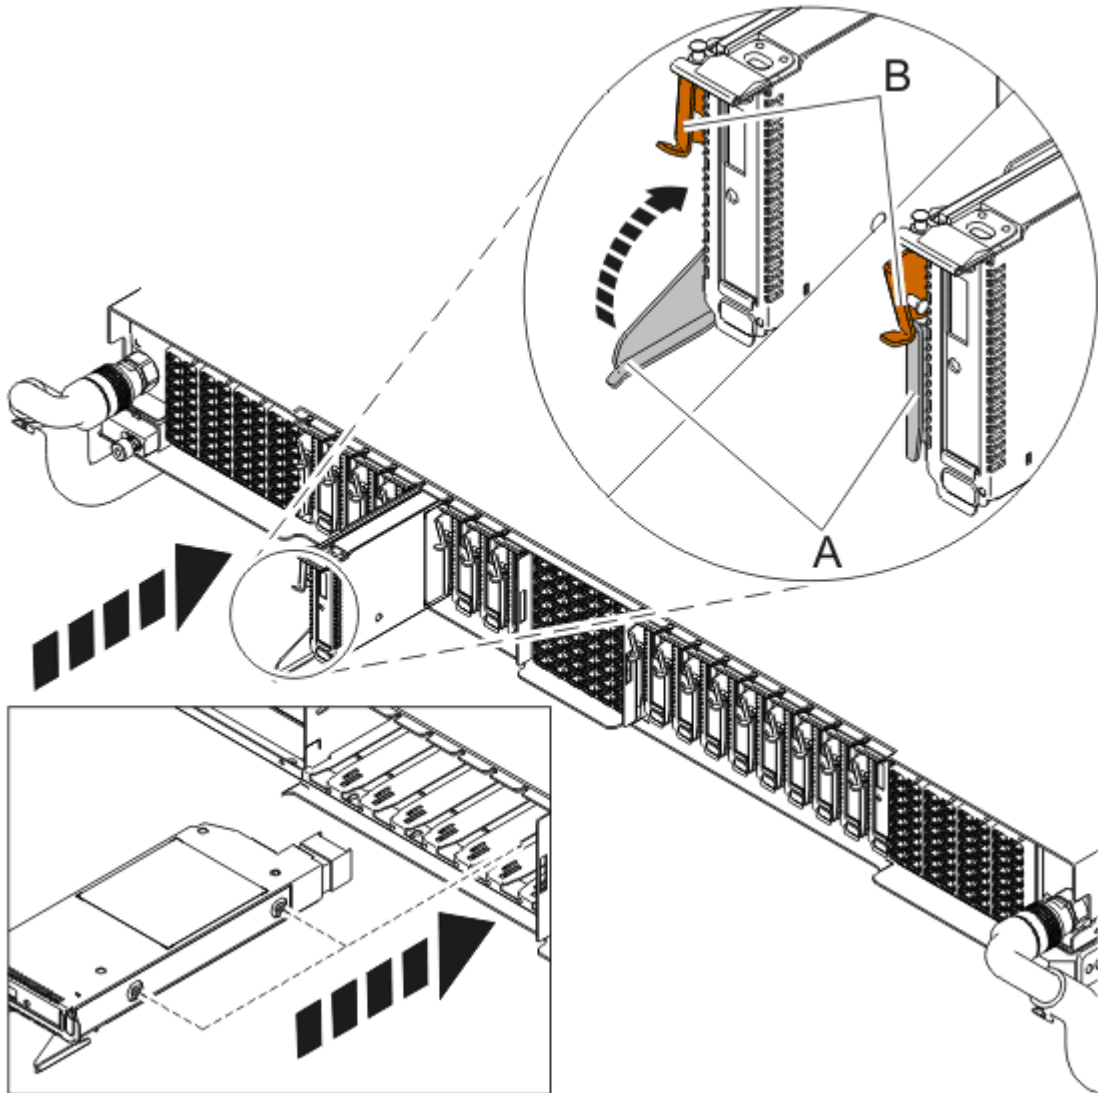

Figure 16 Install Utility Non-Volatile Storage Assembly
STEP 32 Install the replacement Utility Non-Volatile Storage Assembly and SAS Jumper Cable. See Figure 16 for UNVSA installation.
- a. Align the guide pins on bottom of UNVSA with the PCIe slot as shown in the lower left inset of Figure 16. Bottom of UNVSA shown for reference to guide pins only.
- c. Rotate the black locking lever(A) in the direction shown to seat the UNVSA.